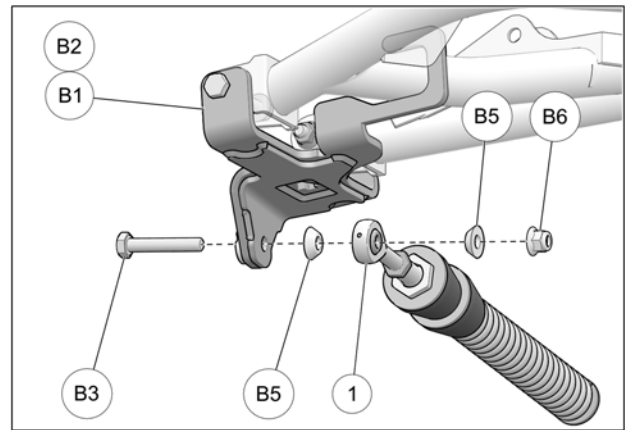

Fig. 10
10. Attach stabilizing rod (1) to anchor bracket (B1-B2), using bolt (B3), taper spacer bushings (B5), and nut (B6). Torque to 70 N•m [52 lb•ft]. See Fig. 10